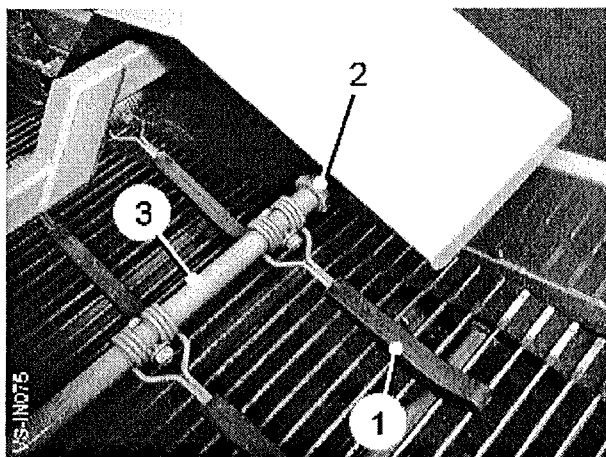

Fig 10
To set the height of the fingers (item 1, fig 10) above the web, loosen the clamp nuts (item 2, fig 10) and rotate the mounting bar (item 3, fig 10) until the fingers are at the required height. It is not always necessary to set both rows of clod fingers completely down, it is often better to have the second row lower than the first. In heavy green top or rubbish, the clod fingers may cause material to ball up and overload the haulm roller. If this occurs, the fingers should be lifted out of work.